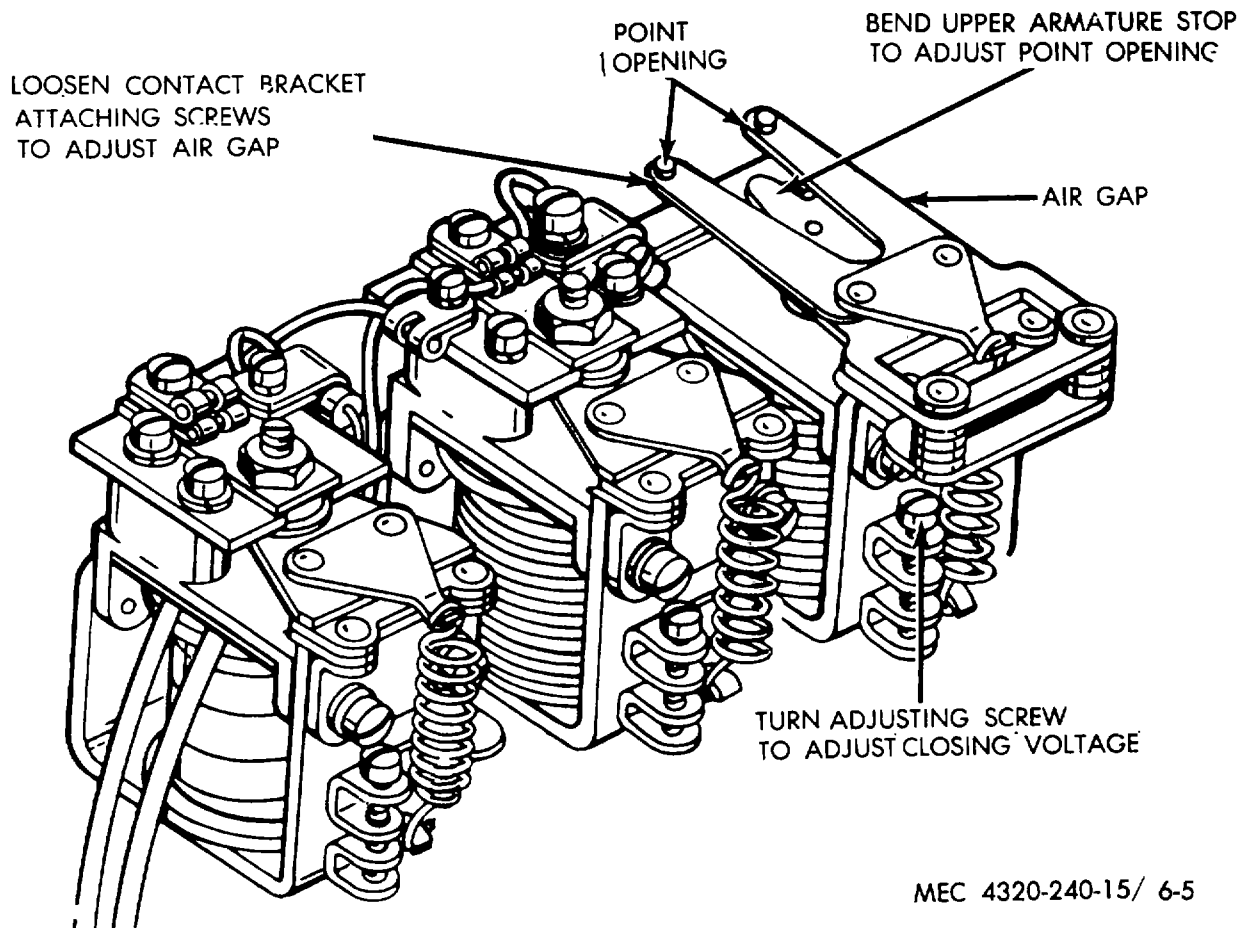
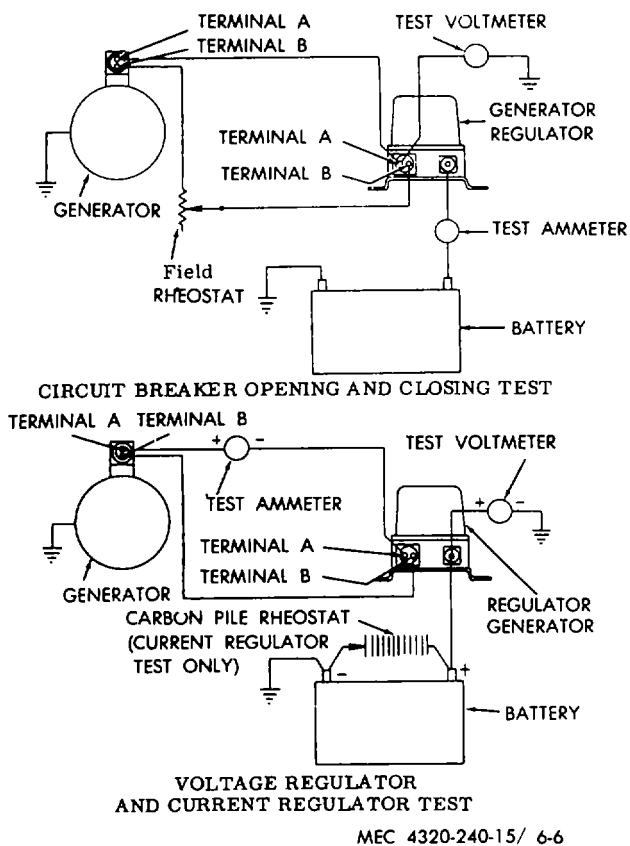

Figure 6-5. Generator regulator cutout relay adjustment.
Figure 6-6. Generator regulate test set-up.
(3) With the battery disconnected, refer to figure 6-5; measure the point opening and adjust to .035 inch by bending the upper armature stop.
(5) Connect the generator regulator and generator in a circuit as shown in figure 6-6 and check the cutout relay (circuit breaker) opening and closing. With the field rheostat set at maximum resistance, start the engine and operate it at 2250 rpm. Adjust the field rheostat while watching the voltmeter. Check the closing voltage of the cutout relay contacts. It must be 25 to 27 volts as indicated on the voltmeter. Refer to figure 6-5 and adjust the closing voltage, if necessary.
(6) Connect the generator regulator and generator in a circuit as shown in figure 6-6 and check the voltage regulator operating volt
(7) Connect the generator regulator as shown in figure 6-5 using the carbon pile rheostat. Check the operating amperage of the current regulator. It should operate at 16 to 20 amperes. If it fails to operate within the required range, refer to figure 6-4 and adjust the current setting. After each change of adjustment, reduce generator speed until cutout relay opens, then return to speed and read current.
(8) If the adjustment cannot be made, replace the generator regulator.